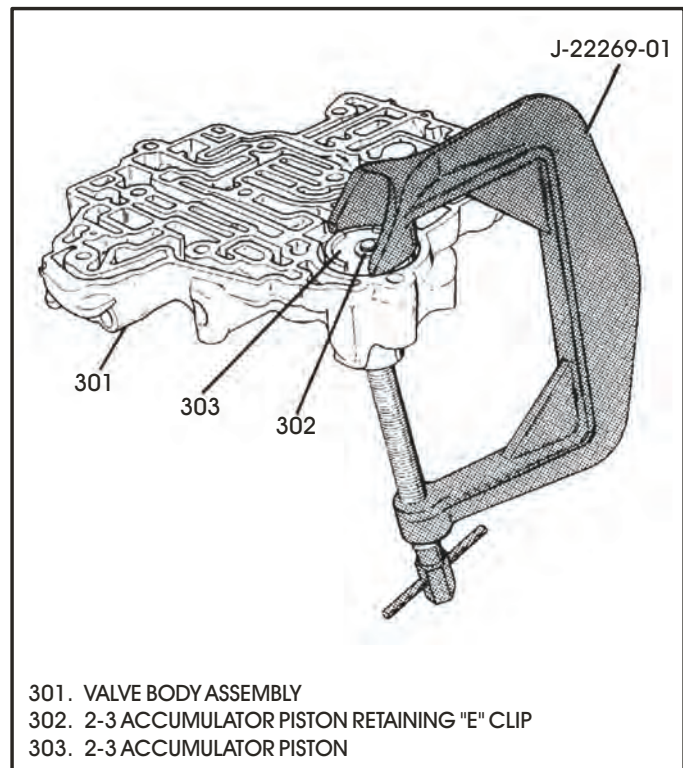

Figure 102
1. Remove the 2-3 accumulator piston from the valve body casting using J-22269-01 press, as shown in Figure 102.
16. Compress the 2-3 accumulator piston against the spring pressure using J-2226-01, as shown in Figure 102, and install retaining "E" clip.